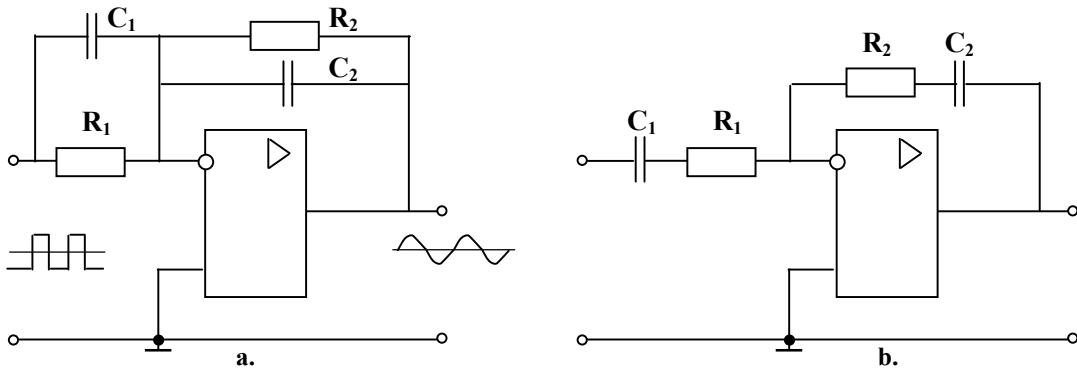

Fig. 2.40
**PID-circuits.** Two variants of proportional-integrated-differential circuit (*PID-regulator*, *PID-controller*) are shown in Fig. 2.40. They amplify the beginning and the end of the pulse signal. Circuit parameters are as follows:  $K = R_2 / R_1$ ,  $T_1 = R_1C_1$ ,  $T_2 = R_2C_2$ .